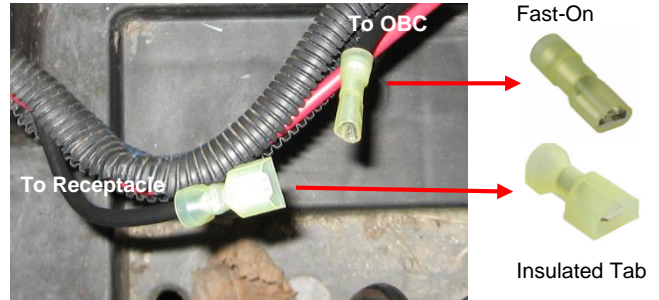

Figure 4: Terminals attached
- 3) Cut the black wire (Battery-) at the mid-point. Of the two separate wires, identify the one which goes to the OBC and strip 0.4" of insulation from the end. Insert the stripped wire into the fast-on terminal and crimp (See *Figure 4* for result).
- 4) Strip 0.25" of insulation from the black wire which goes to the receptacle. Insert the stripped wire into the insulated tab terminal and crimp (See *Figure 4* for result).